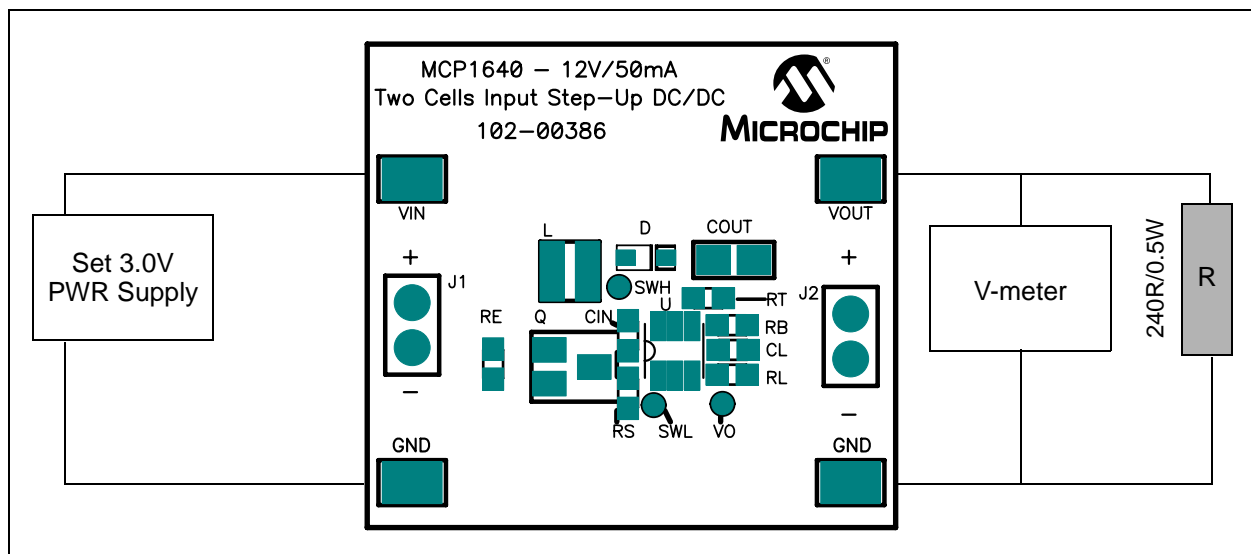

FIGURE 2-3: MCP1640 12V/50 mA Two Cells Input Boost Converter Reference Design Setup Circuit.
3. Connect a voltmeter and a 240 Ω /0.5W resistor between V_{OUT} and GND connectors, as shown in Figure 2-3.